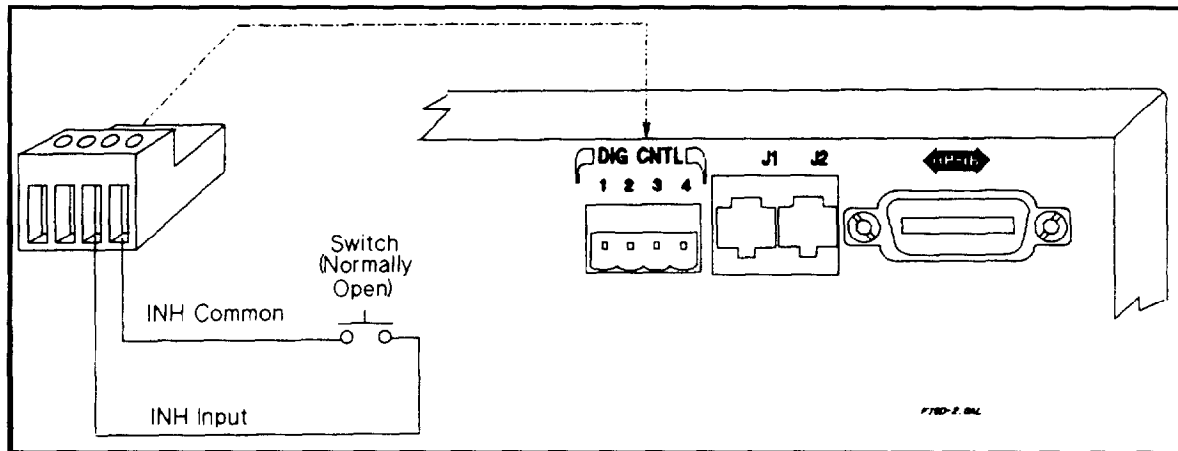

Figure D-2. Example of Inhibit Input
In Figure D-2, the INH input is connected to a switch that shorts pin 3 to pin 4 whenever it is necessary to externally disable the output of the supply. This will activate the remote inhibit (RI) fault protection circuit, causing the front panel